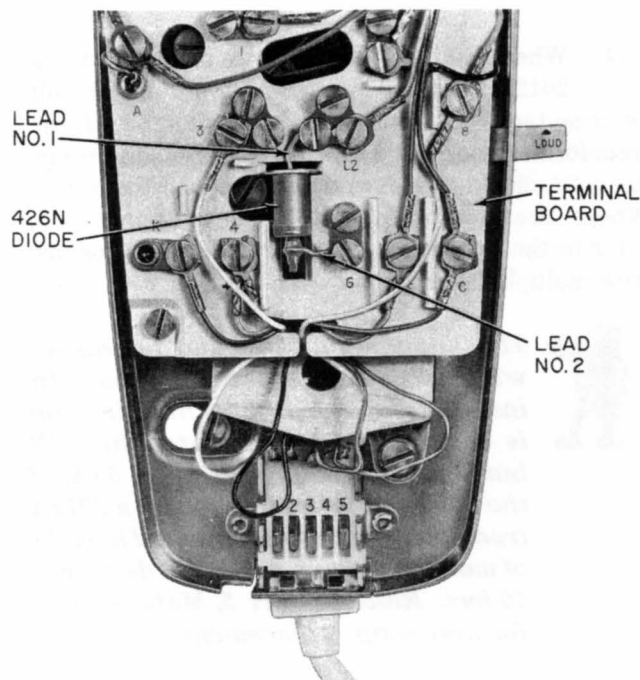

Fig. 9—426N Diode Installed
3.15 A 426N diode must be installed in either the AC1 or AD1 base assembly when connecting for 4-party full selective or 8-party semiselective ringing. The two leads from the diode are designated No. 1 and No. 2. Lead No. 1 extends from the flanged (gold) base of the diode; lead No. 2 extends from the housing tip of the diode. Place the diode in the opening provided in the terminal board (Fig. 9). Dress the leads to the appropriate terminal board terminals, refer to Table E for connections.